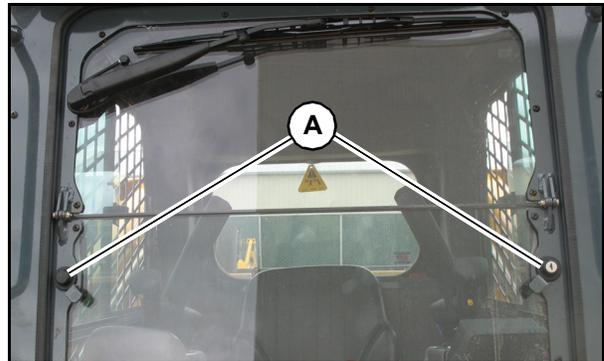

Fig. 47 – Opening the Door
- b. Push in the two buttons (A, Fig. 47) located on the outside of the lower door panel.